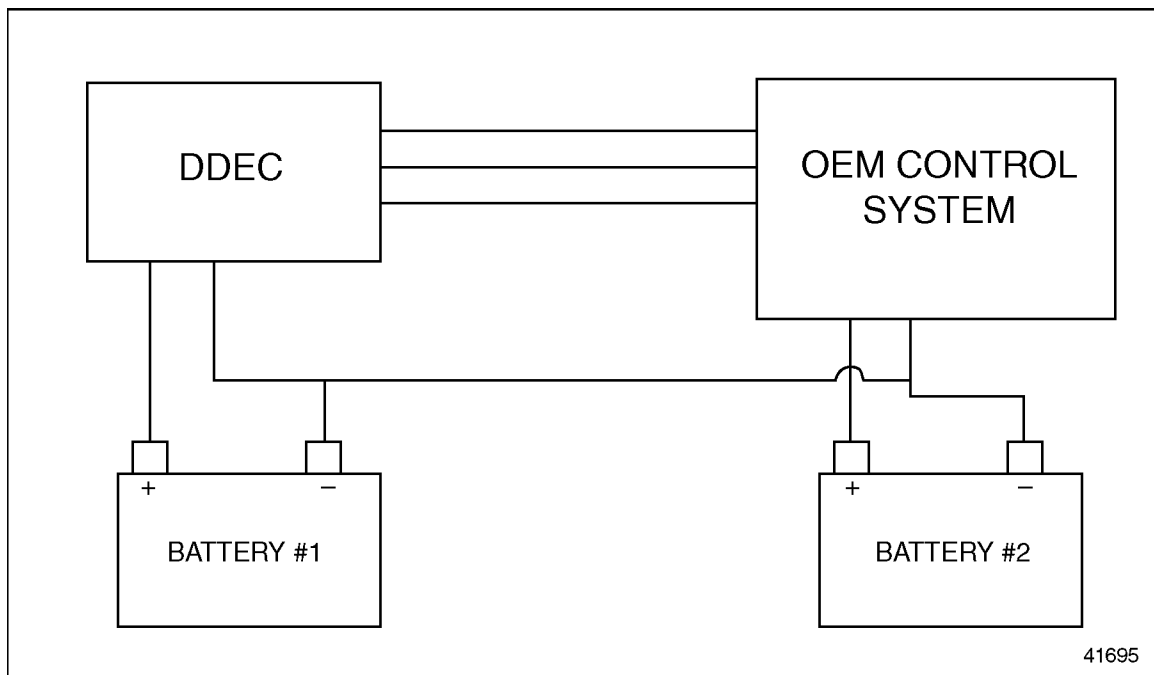

Figure 3-27 Battery System Grounds Connected Using a High Ampacity Cable
- The battery grounds of the various battery systems MUST be connected together using a high ampacity cable (see Figure 3-27).